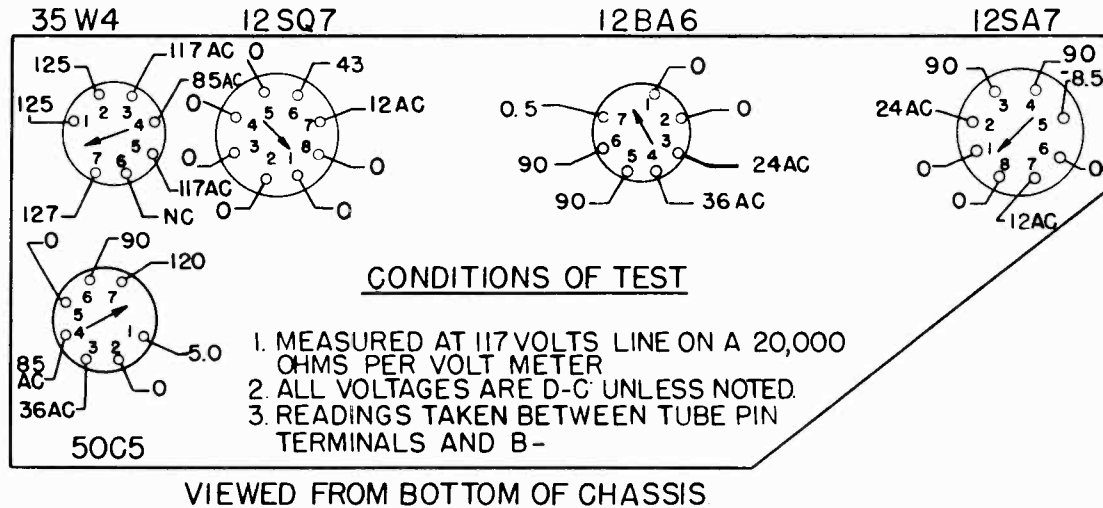

Fig. 2. Socket Voltages
- (3) Oscillator Grid Bias.
- (4) Socket Pin Voltages.
- Figure 2 shows voltages from all tube pins to B- unless otherwise specified. Voltage readings much higher or lower than those specified may help localize defective components or tubes.